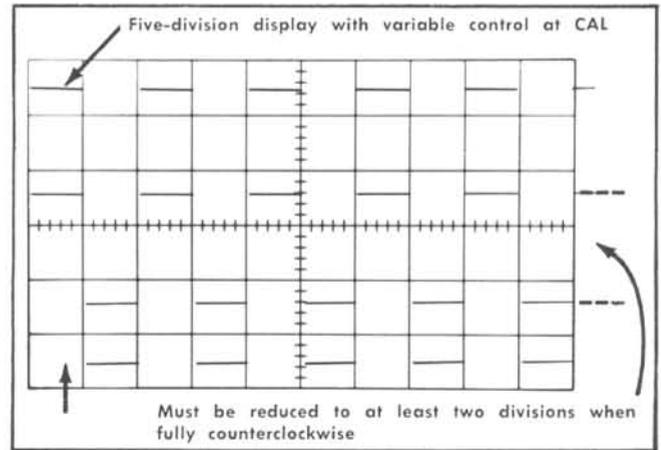

Fig. 6-22. Typical crt display showing correct VARIABLE VOLTS/DIV control range (double exposure).
- Check—Turn the Channel 1 VARIABLE VOLTS/DIV control fully counterclockwise. Display should be reduced to 2 divisions or less (see Fig. 6-22). UNCAL light must be on when VARIABLE control is not in CAL position.
- Check—Turn the Channel 2 VARIABLE VOLTS/DIV control fully counterclockwise. Display should be reduced to 2 divisions or less (see Fig. 6-22). UNCAL light must be on when VARIABLE control is not in CAL position.